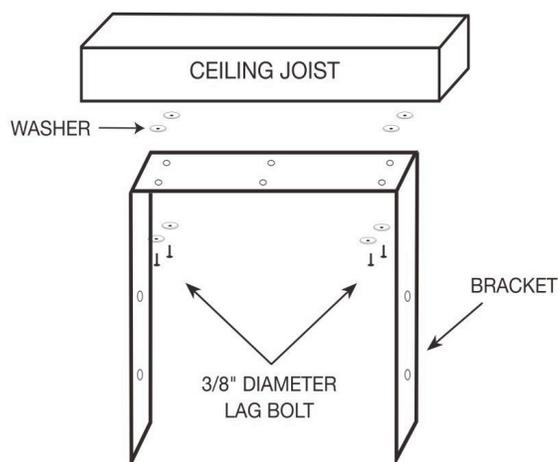

Figure 4: Multi-Screw Mounting, For Fixed Position
**BRACKET INSTALLATION FOR EWH9800 Refer to Figure 4.**
3. Place the screws and washers as shown in the **Figure 4**.